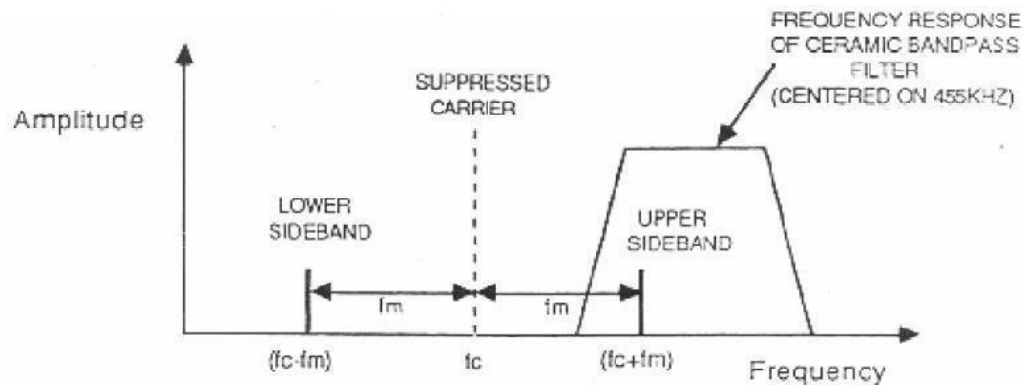

Figure 4: Frequency Response of Ceramic BPF
7. The DSBSC output from the balanced modulator block is next passed onto the ceramic filter block, whose purpose is to pass the upper sideband, but block the lower sideband. We will now investigate how this is achieved. First note that the ceramic band pass filter has a narrow pass band centered around 455 KHz. It was mentioned earlier that the frequency of the carrier input to the balanced modulator block has been arranged to be slightly less than 455 KHz. In fact, the carrier is chosen so that, whatever the modulating frequency  $f_m$ , the upper sideband (at  $f_c + f_m$ ) will fall inside the filter's pass band, while the lower sideband (at  $f_c - f_m$ ) always falls outside. Consequently, the upper sideband will suffer little attenuation, while the lower sideband will be heavily attenuated to such an extent that it can be ignored. This is shown in the frequency spectrum in fig 4.
**10.** Note that there is some variation in the amplitude of the signal at the filter's output (t.p. 20) as the modulating frequency changes. This variation is due to the frequency response of the ceramic band pass filter, and is best explained by considering the spectrum of the filter's input signal at the MIN and MAX positions of the frequency pot, as shown in Fig. 4.